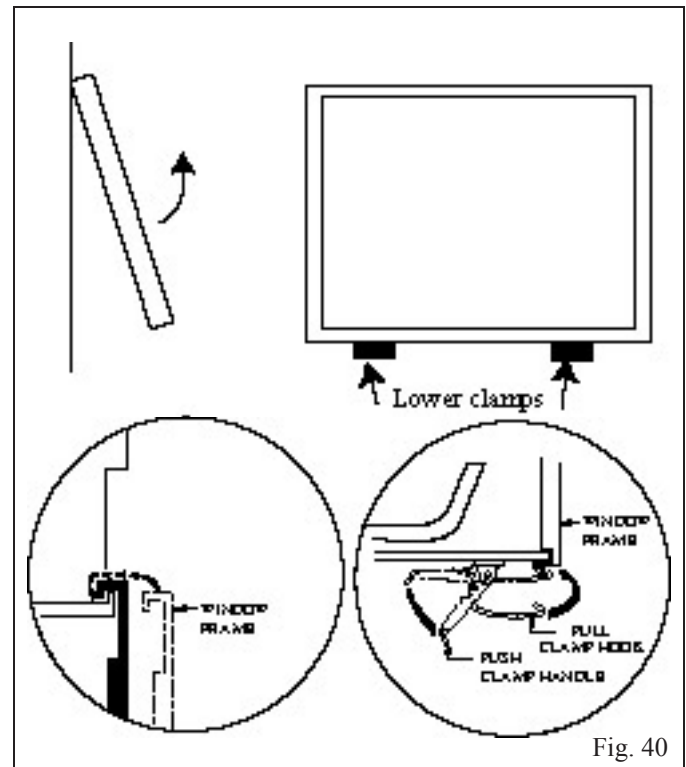

Fig. 40
5. Release the two clamps securing the lower edge of the frame by pulling down on the handles, Fig. 40.